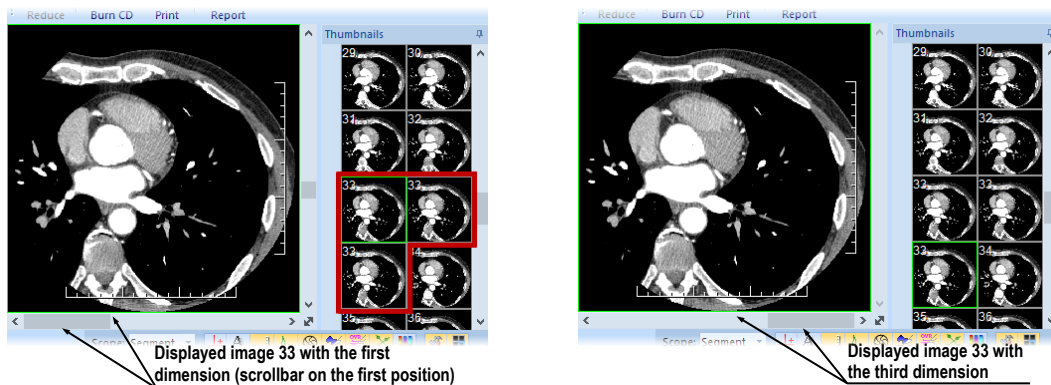

Figure 141 – Displayed image with the first and the third dimension in the current view
- Move to the next/previous image that has the same dimension as the dimension of the image displayed in the current view by scrolling with the mouse wheel or using the vertical scrollbar. The dimension will be achieved and the image will skip to the nearest image in the series (see Figure 141).